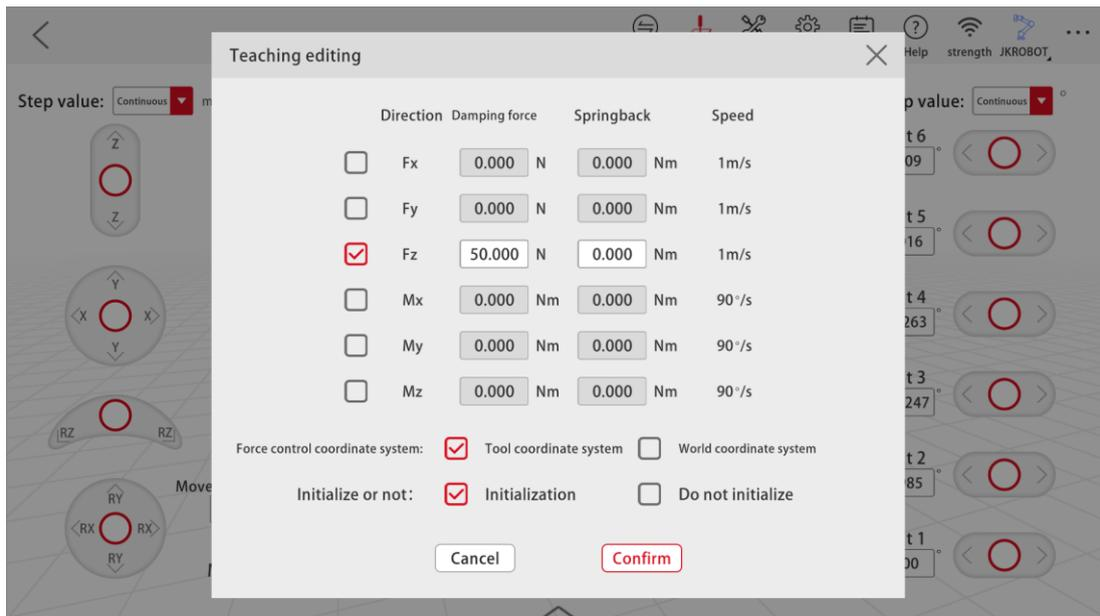

Figure 3-11 JAKA Zu Se Traction Teaching Function Settings
- b. As shown in Figure 3-11, open the [Manual operation] page, and tap [Configure] to enter the teaching editing interface, where F_x , F_y , and F_z correspond to the displacements in the directions of X, Y, and Z, and M_x , M_y , and M_z correspond to rotations in the directions of X, Y, and Z; Check in front of [Direction] to enable one or more directions. Then you can drag the robot in the enabled direction(s) after turning on Drag; The lower the [damping force] is set, the less force is required to drag, but it doesn't mean the lower the better. It is recommended to set F_x , F_y , and F_z to be greater than 15N, and M_x , M_y , and M_z to be greater than 0.3Nm. It is NOT allowed to set the values to 0 (for your first attempting after powering on, it's recommended to set F_x , F_y , and F_z above 50N, and M_x , M_y , and M_z above 1Nm); Setting [Springback] enables the robot to return to its original position after it has been dragged away and released, simulating the spring effect. The farther the robot is dragged; the greater force is required to drag. Setting a higher value will require more force to drag, and the robot will rebound faster once it's released.